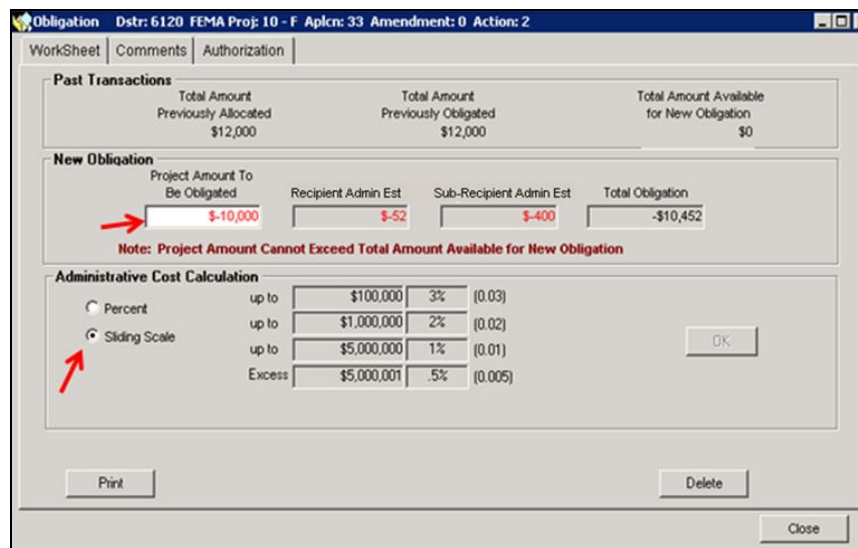

Figure 10-70: Deobligation using the Sliding Scale Radio Button to ensure proper calculation
9. Press the Tab key. The amount is displayed in the Total Obligation field. Notice the minus sign before the amount and the red font (Figure 10-70).
10. When deobligating project funds as well as Recipient and Subrecipient Administrative funds, always use the sliding scale radio button to ensure the Recipient and Subrecipient Administrative funds are calculated correctly by the system and included in the Total Obligation field along with the Project Amount to be deobligated (Figure 10-70).